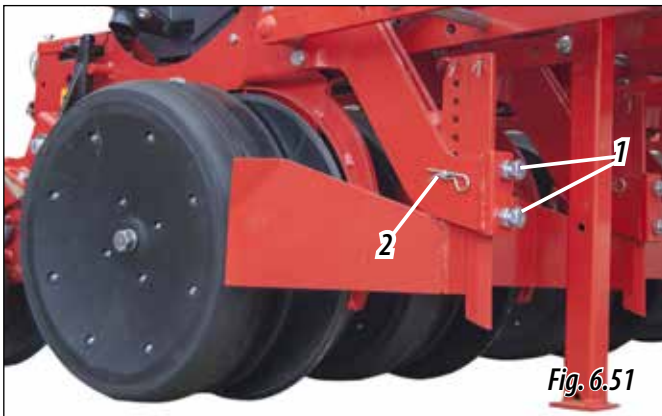

Fig. 6.51
- 1- Loosen the screws (1, Fig. 6.51) to free the blade and the clod remover.
- 2- Remove safety ring and securing bolt (2, Fig.6.51).
- 4- Adjust the screws and locknuts (1, Fig. 6.51) to secure each component.